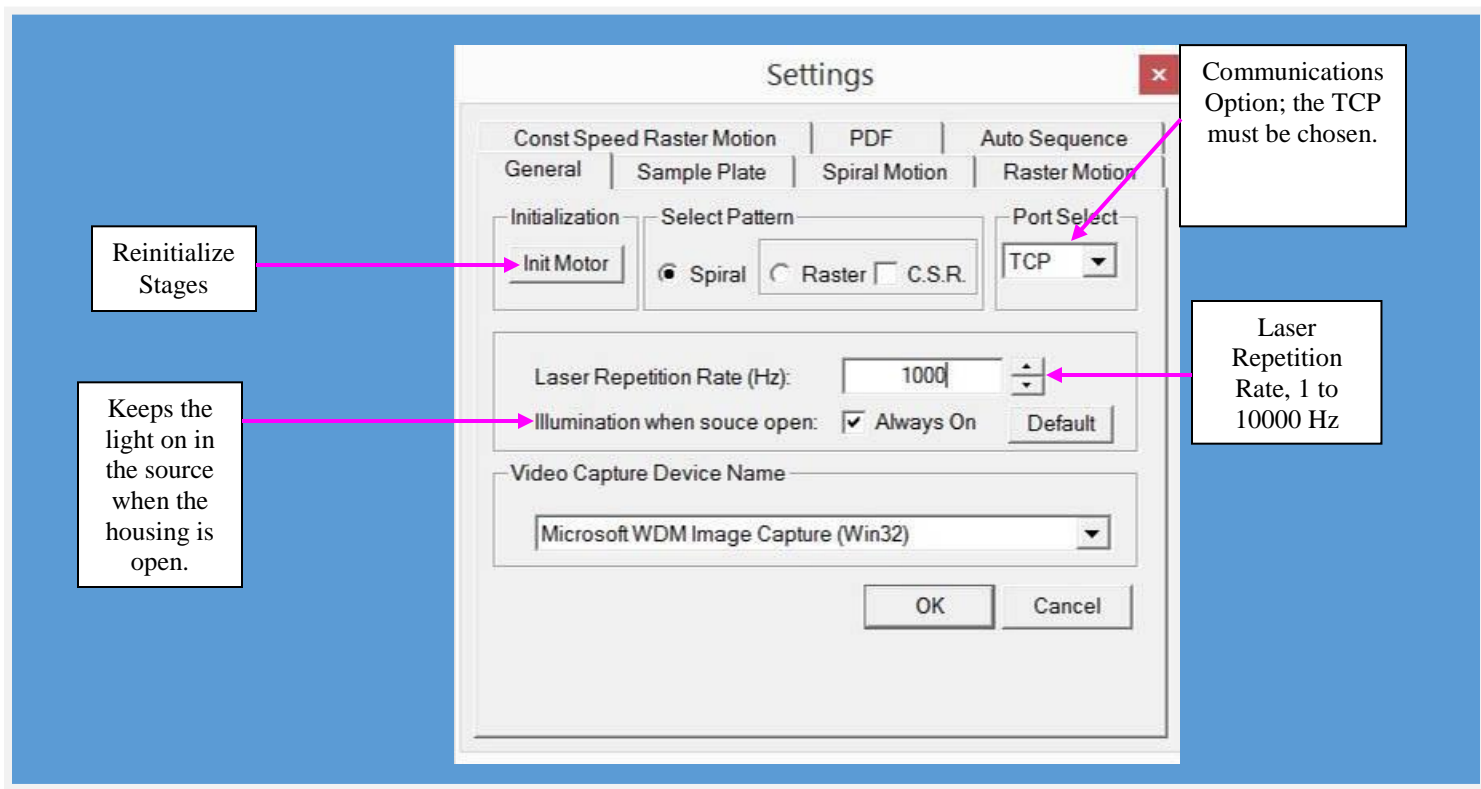

Figure 7.16 General Settings in the Target Software
To change the various program parameters such as the: spiral/raster motion properties, laser frequency, auto sequence mode timing and so on, click the "Settings" button and edit the parameter(s) as it is shown in Figs. 7.16 to 7.19 below.
There are three different sample plate patterns that can be selected during the MS data acquisition to desorb the fresh regions of the sample surface by laser radiation. The spiral motion and raster images can all be seen in Fig. 7.16. The parameters of the patterned motion can be adjusted using the two separate pages of the setting dialog function: spiral and raster motion, correspondingly. The spiral or raster motions can be used if the acquisition of long enough MS signal is desirable. A relatively weak MS/MS data recording would be expected during the signal accumulation if using either motions.
- Laser pulse energy and frequency may be easily tuned through the Target Software (see Fig. 7.16 and 7.19). Typically the user should tune the attenuation for the maximum signal only once, for every matrix type ( $\alpha$ -CHC, DHB and so on).